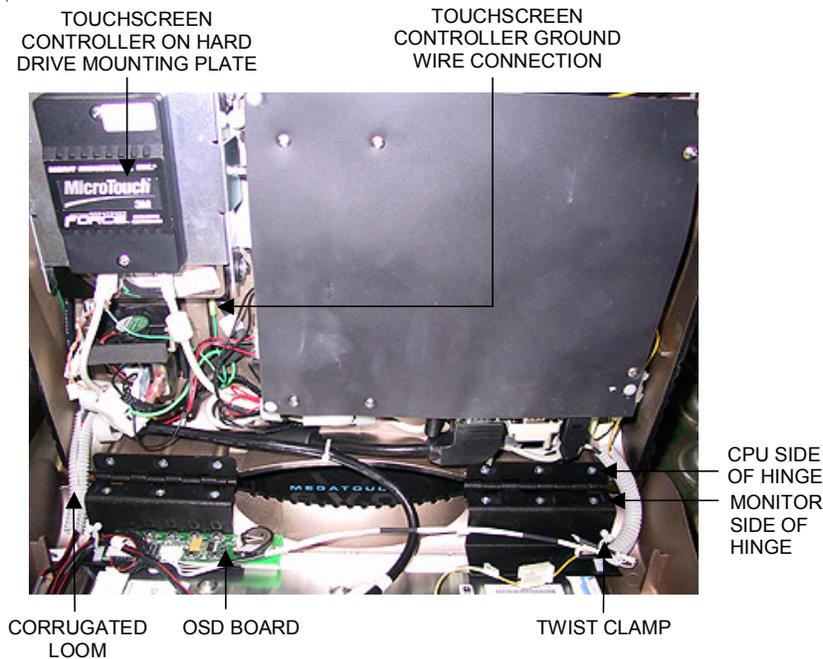

FIGURE 4 – CPU SECTION OF FORCE COUNTERTOP GAME
9. Remove any wires connected to the touchscreen controller from wire ties, clamps and/or the corrugated loom alongside the bezel edge. See Figure 4.
8. Remove any wires connected to the touchscreen controller from wire ties, clamps and/or the corrugated loom alongside the bezel edge. See Figure 4.
11. **If you are replacing an existing Foreseesons monitor:** Loosen the 6 screws on the monitor side of the hinges (3 screws per hinge) in order to raise the hinges and allow enough room to remove the monitor. See Figure 4.
**If you are replacing an existing Samsung or Kortek monitor:** Free the hinges from the CPU section and bezel of the game by removing all 12 screws found on the 2 hinges (6 screws per hinge). Also remove the twist clamps from the hinges. See Figure 4.